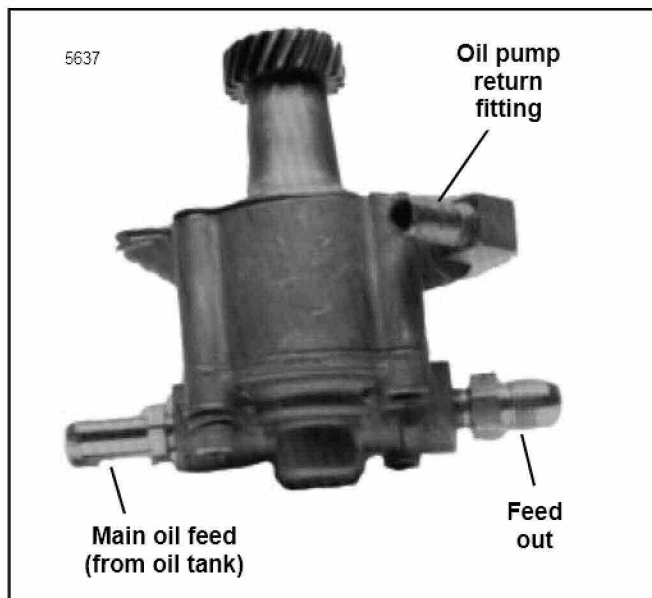

Figure 7. Oil Pump - 1991 and Later XLH Models
2. See Figures 7 and 8. Disconnect oil return line at the oil pump. The return line is located on the angled fitting at the front of the oil pump and is secured with a hose clamp. Use a pan to catch any oil that may spill.